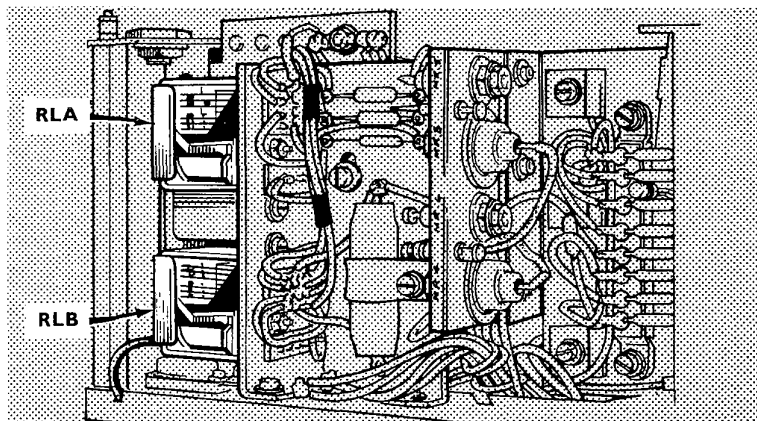

Fig 3 - Relays - battery charging unit
- (b) Switch on the d.c. supply and note that the relay RLA (Fig 3) operates at $19 \pm 1V$.
- (b) Increase the d.c. input to 22V and check that relays RLA and RLB (Fig 3) are operated. Check that the output is $13.2 \pm 0.1V$.